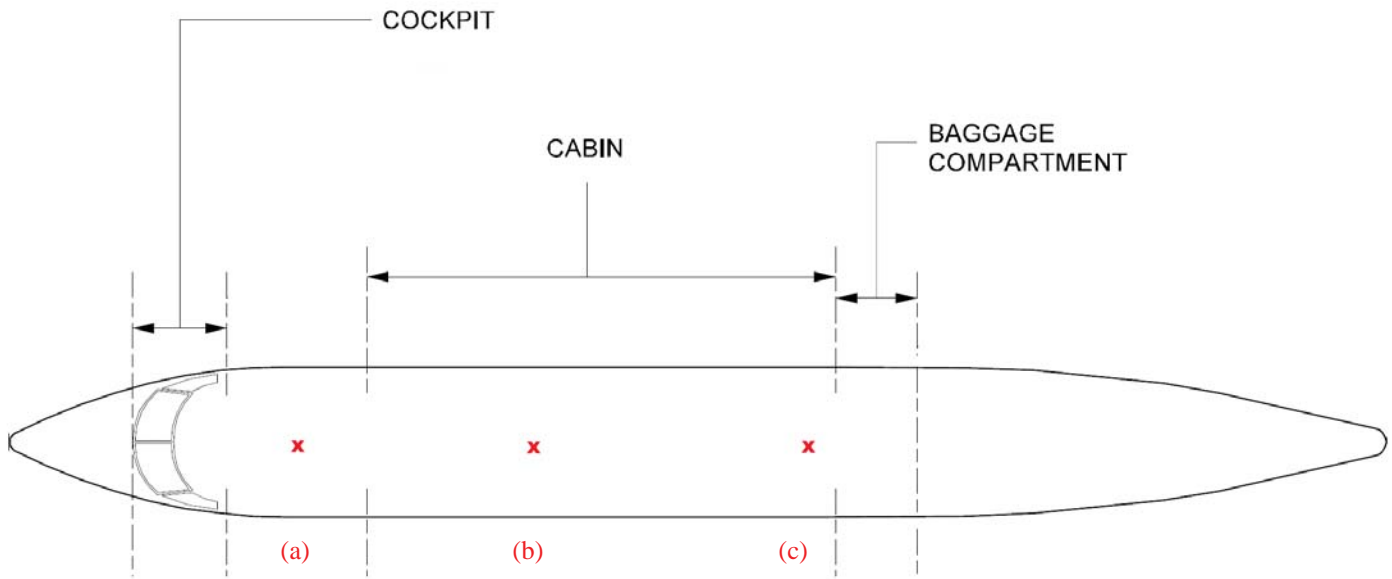

Figure 102 - G-IV / GV Canister Locations
- (8) Place 3 canisters of the disinsectant throughout the aircraft as follows. (reference figure 102). The aerosol shall be directed up in the aisle ways.